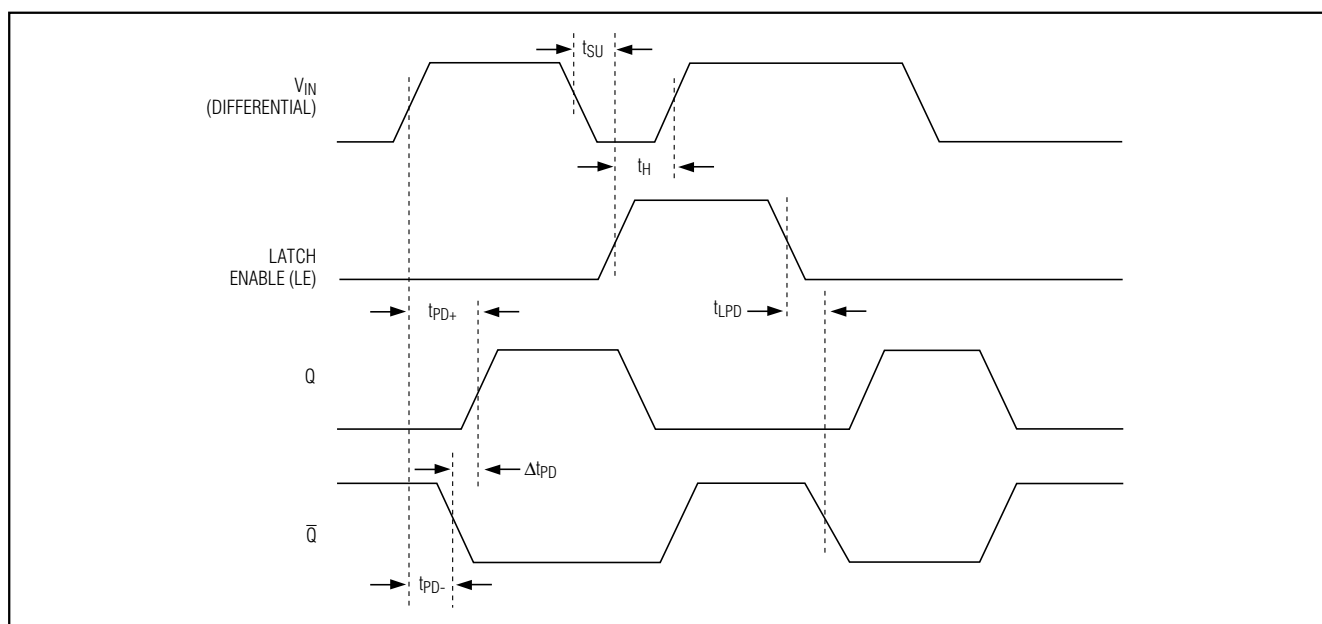

Figure 1. Timing Diagram
The MAX912/MAX913 provide a TTL-compatible latch function that holds the comparator output state (Figure 1). As long as Latch Enable (LE) is high or floating, the input signal has no effect on the output state. With LE low, the outputs are controlled by the input differential voltage and the latch is transparent.
The maximum clock and signal rate is  $70\text{MHz}$ , based on the comparator's rise and fall time with a  $5\text{mV}$  overdrive at  $+25^\circ\text{C}$  (Figure 1). With a  $20\text{mV}$  overdrive, the maximum propagation delay is  $12\text{ns}$  and the clock signal rate is  $85\text{MHz}$ .